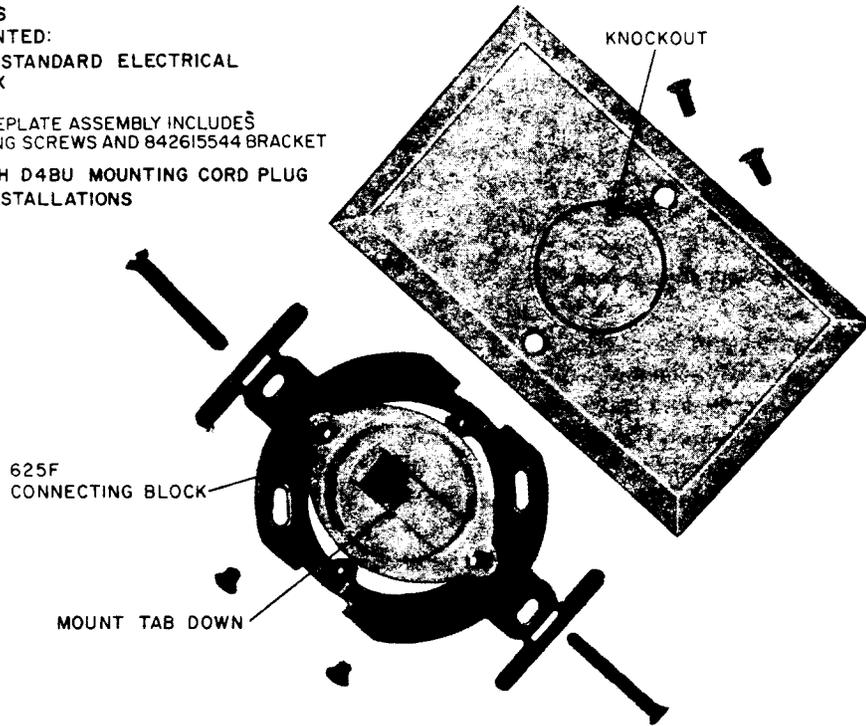

Fig. 2—625B Connecting Block
- Block, Connecting, 625B (Fig. 2)
B. 625B Connecting Block (Fig. 2)
2.04 The 625B connecting block (Fig. 2) is intended for new installations. It consists of a 625F connecting block and 65A faceplate assembly which includes a 842615544 bracket and mounting screws. It is flush mounted. It is available in light olive gray (-49), ivory (-50), and brown (-54).
(b) **Flush-Type:** The jack opening shall be oriented with spring contacts at the top and the tab down as shown in Fig. 2. Locate connecting block where convenient for ease of connecting and disconnecting the miniplug.
3.03 625B Connecting Block: Mount the 842615544 bracket (Fig. 2) on a standard electrical outlet box, or 63B prewire bracket using hardware furnished. Feed wiring through the bracket and terminate on screw terminals located on back side of 625F connecting block. Fasten block to bracket. Remove knockout from 65A faceplate. Fasten faceplate to bracket to complete installation. The 625B connecting block can also be used with the 63B bracket or KS-20502L2 bracket.